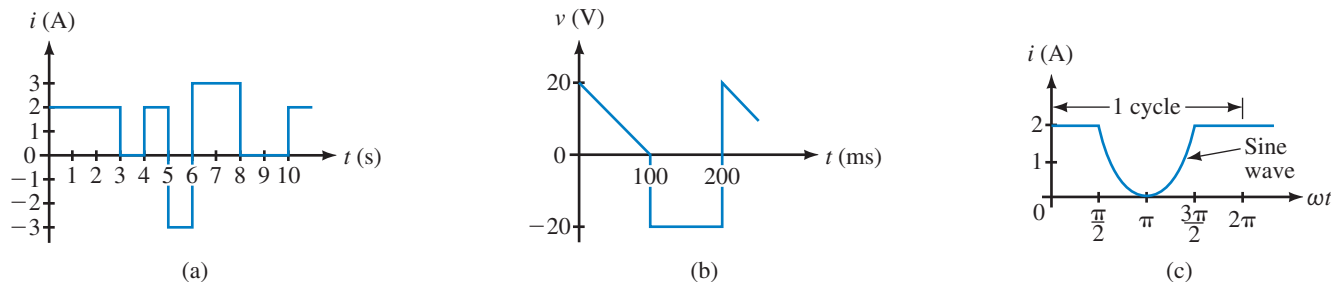
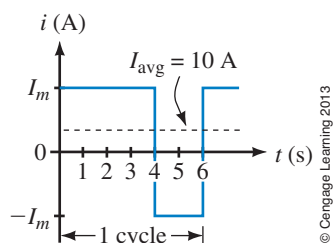

FIGURE 15-88
FIGURE 15-89
49. Compute I_{avg} or V_{avg} for the waveforms of Figure 15-88.
50. For the waveform of Figure 15-89, compute I_m .
58. Compute the rms values for Figure 15-88(a) and Figure 15-89. For Figure 15-89, use $I_m = 30$ A.